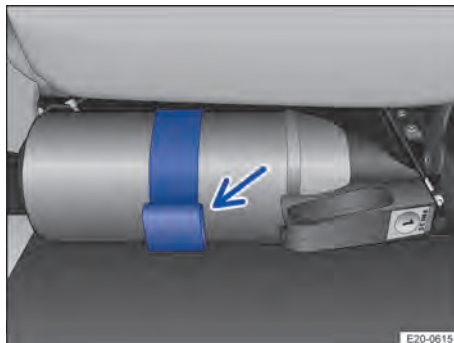

Fig. 48 Under the front passenger seat: Bracket with fire extinguisher (illustration).
1. Open the tab on the bracket and remove the fire extinguisher → Fig. 48 (arrow).